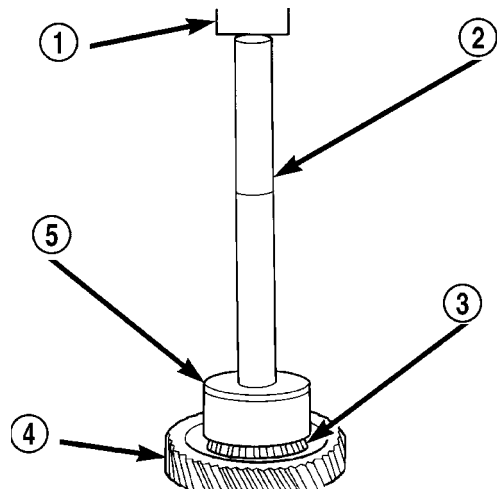

Fig. 117 Install Transfer Gear Bearing Cone
(30) Install transfer gear bearing cone to transfer gear using Tool 5052 (Fig. 117).